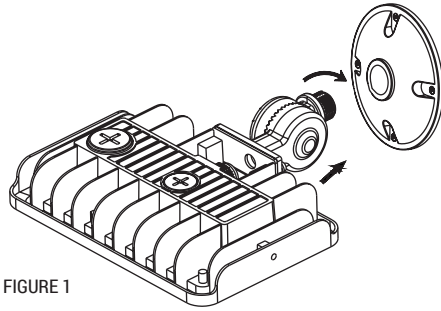

FIGURE 1
Step 2: Insert the knuckle into the cover plate(not provided), and adjust the fixture to desired direction. (Fig 1 & 2)